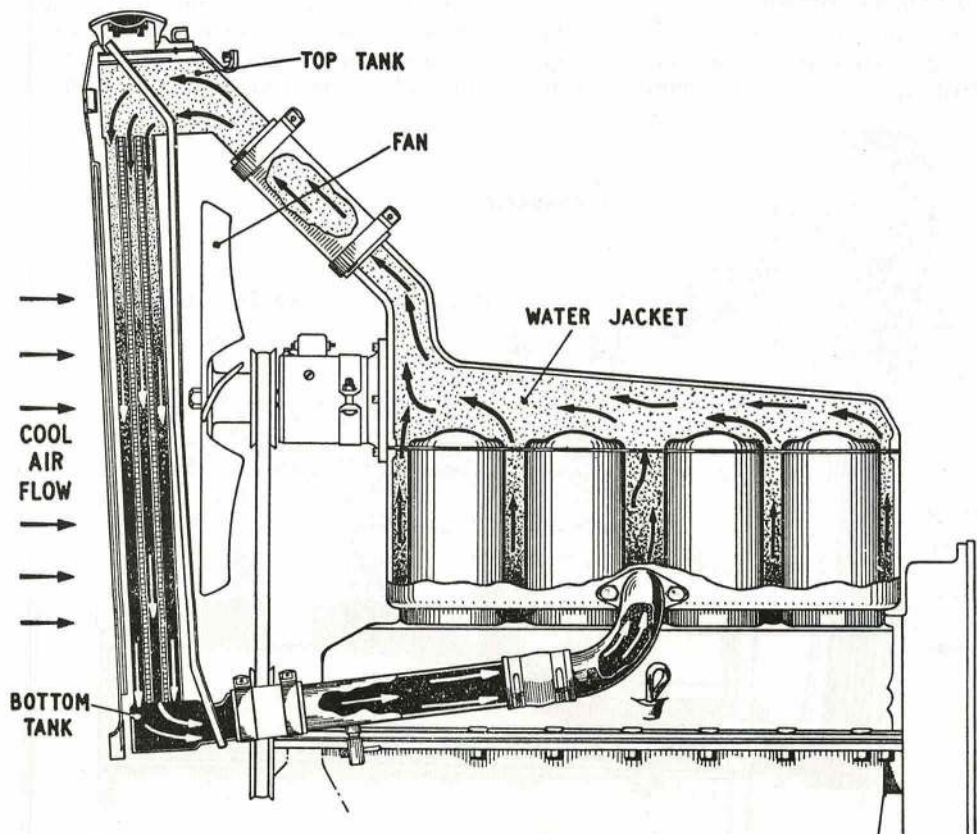

Fig. 3. THERMO-SYPHON COOLING SYSTEM
8. A necessity of the system is that the water must circulate, and this system, illustrated at Fig. 3, is its simplest form.